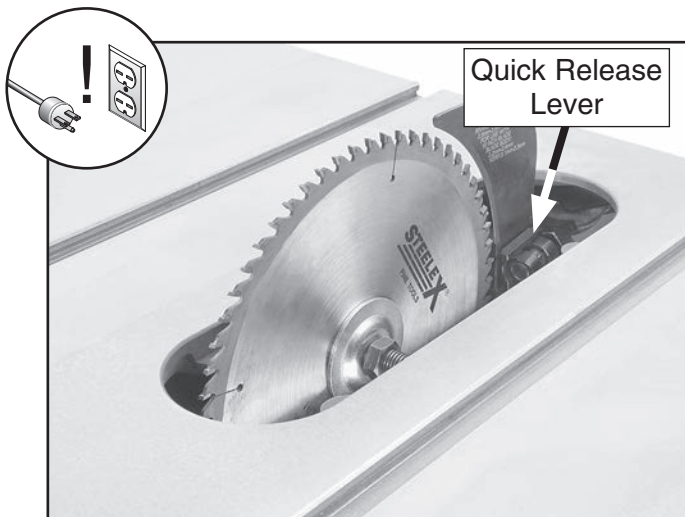

Figure 120. Quick release lever.
3. Loosen quick release lever shown in **Figure 120**.